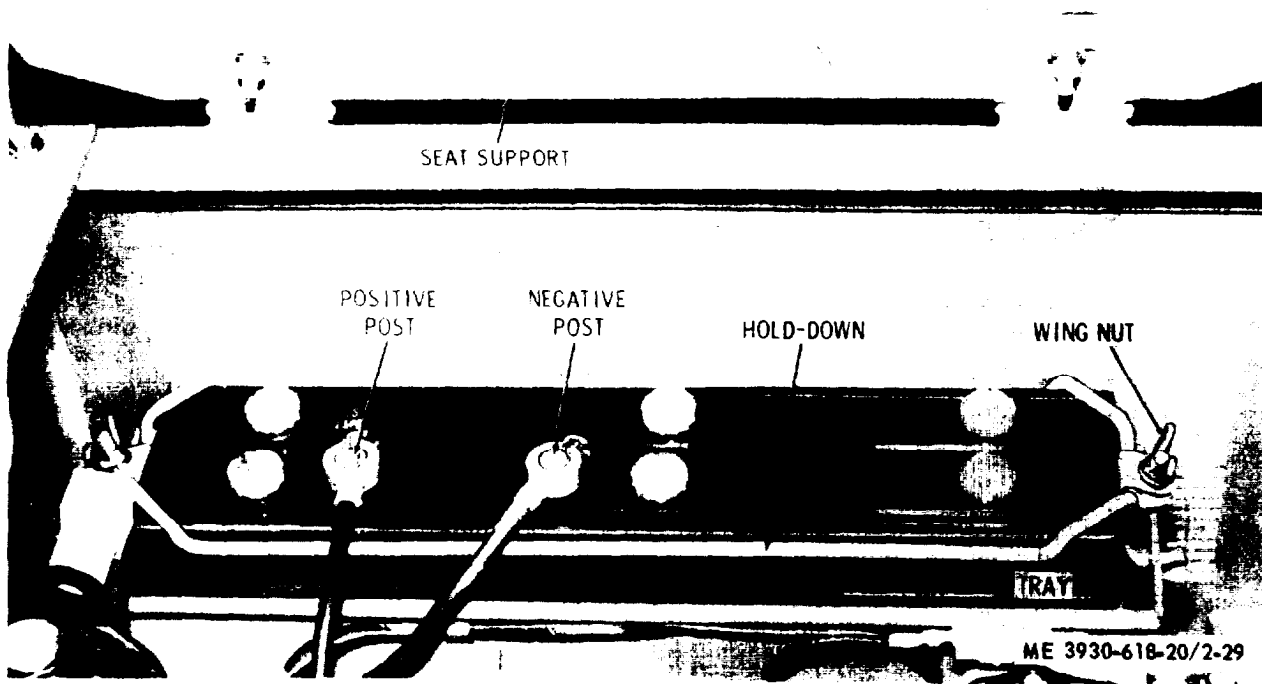

Figure 2-29. Battery and cables. installed view.
a. *Removal.* Refer to figure 2-29 and remove the battery as follows:
(1) Remove the operator's seat.
(2) Remove the wingnuts from the holddown studs and remove the battery holddown.
(3) Remove both cables from the battery posts.